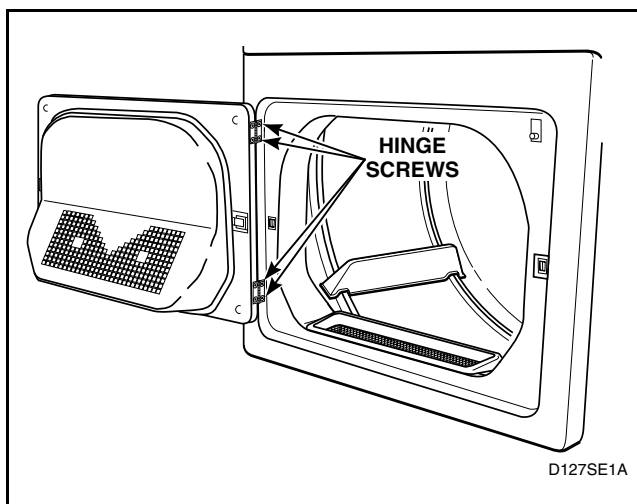

Figure 27
- While supporting door assembly, secure hinges to front panel using the four remaining screws. Refer to *Figure 27*. Tighten all screws firmly.